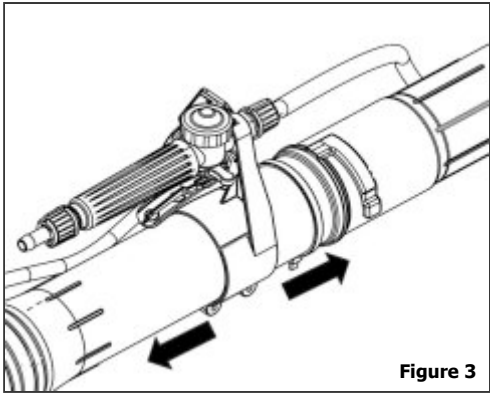

Figure 3
Unified Command (H): For ease of assembly (Figure 3), this component is provided with a connected electrical cord and a hose for liquids.
After completing assembly process in 4.1., put the equipment on your back and adjust the position of the unified command ("joystick") by sliding it forward or backward, as shown in Figure 3, until you find the most comfortable position for operation. Finally, tighten the unified command screws (H), using a Philips screwdriver (provided in the kit) to fix it in a defined position.